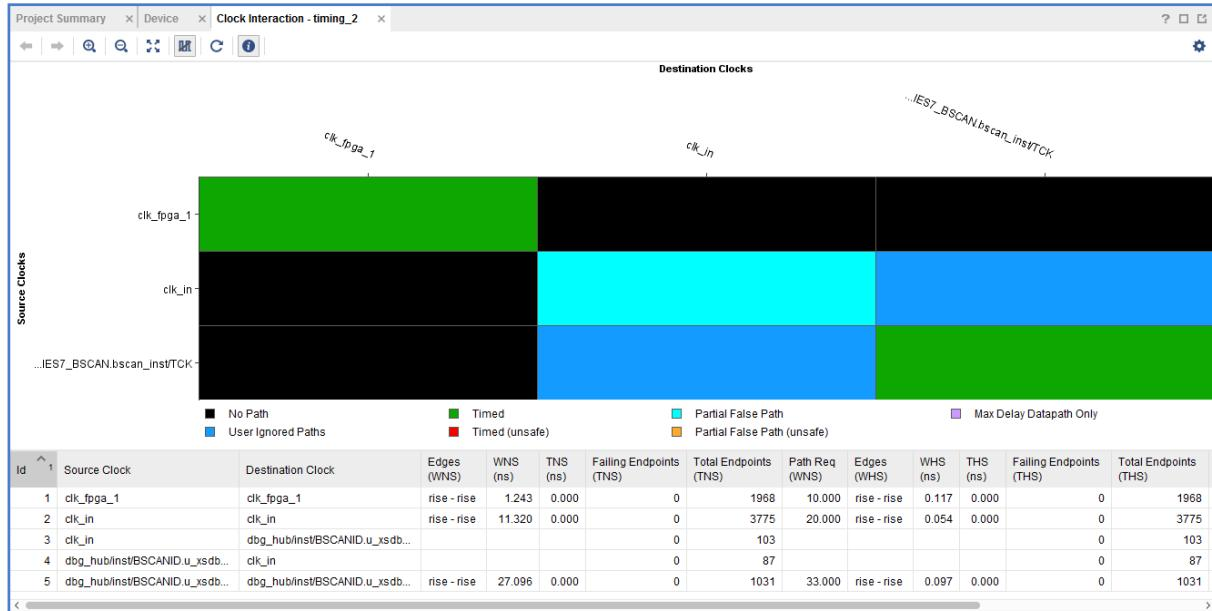

Figure 10.24: Report Clock Interaction tab
- Double-click on the **modulator_socius.xdc** file, under the **modulator_rtl**, to open the file and you should see that your timing constraints were saved to the XDC file, see Figures 10.24 and 10.25
3. The **Clock Interaction** report will display in the main Vivado IDE window, see Figure 10.24.